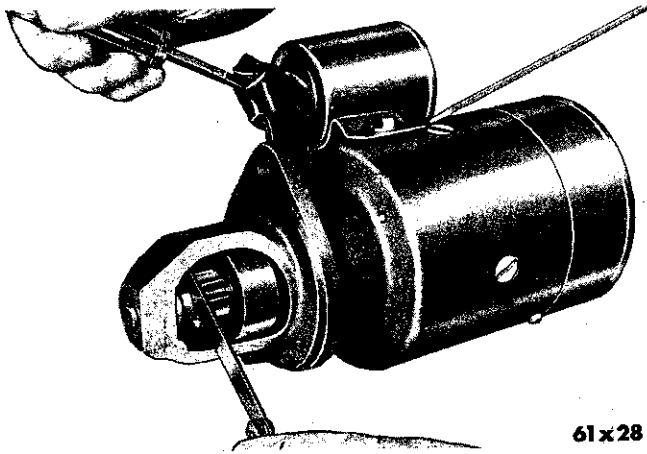

Fig. 13—Measuring the Starter Drive Pinion Clearance
inate all deflection in the solenoid when making the pinion clearance check (Fig. 13).
(2) Push in on the solenoid plunger link (Fig. 13) (NOT THE FORK LEVER) until the plunger bottoms.
(3) Measure the clearance between the end of the pinion and pin stop with plunger seated and pinion pushed toward the commutator end. The clearance should be $\frac{1}{8}$ inch. Adjust for proper clearance by loosening the solenoid attaching screws and move the solenoid fore and aft as required.
(4) Test the starter operation under a free running test.